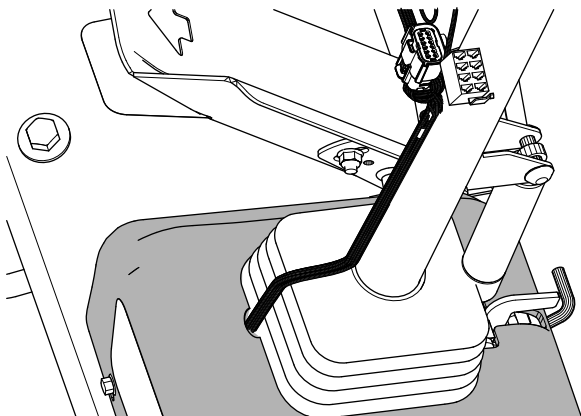

Figure 22
6. Pull the boot down and assemble the bottom of it into the steering cover (Figure 22).